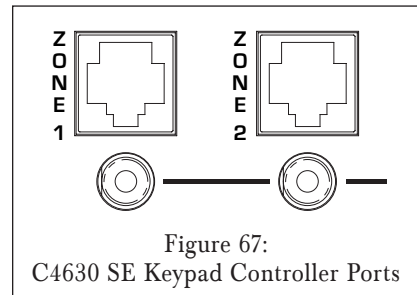

Figure 67:
3. Connect the CAT5/RJ45 cable to the zone’s Keypad Controller Port on the C4630 SE (see *Figure 67*) and to the multi-pin connector on the back of the keypad. Refer to the keypad instructions for details about wiring to the keypad.